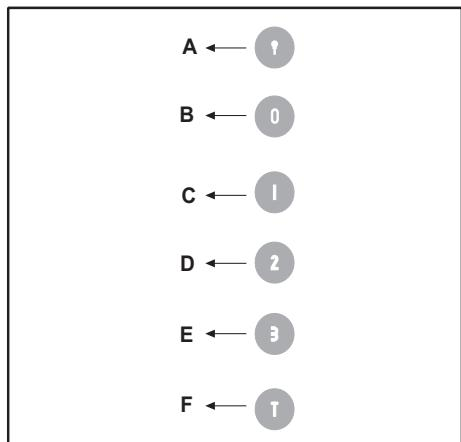

Fig.16
- **COMMANDS:** (Fig.16) **LUMINOUS** the key symbols are explained below: